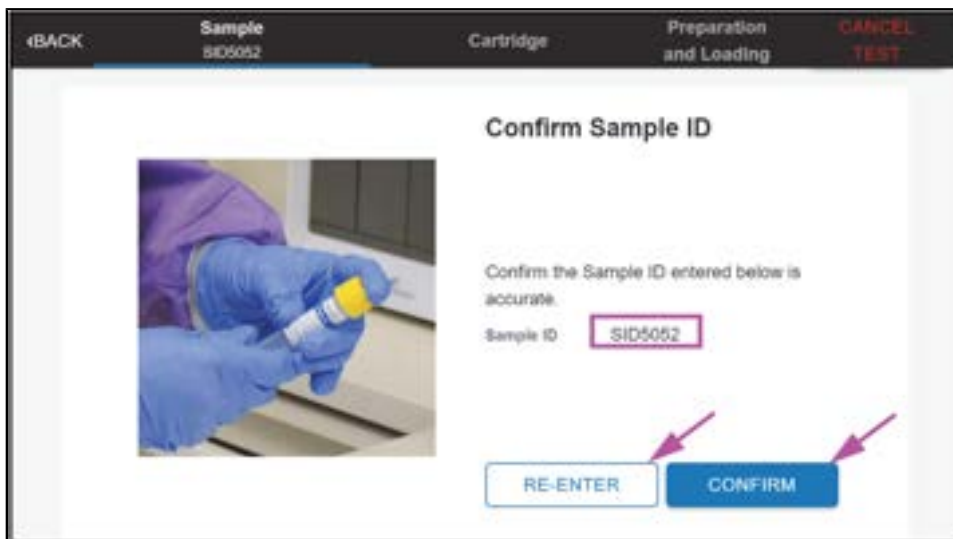

Figure 3. Confirm Sample ID Screen
2. Touch **CONTINUE**. The Confirm Sample ID screen appears (see Figure 3).